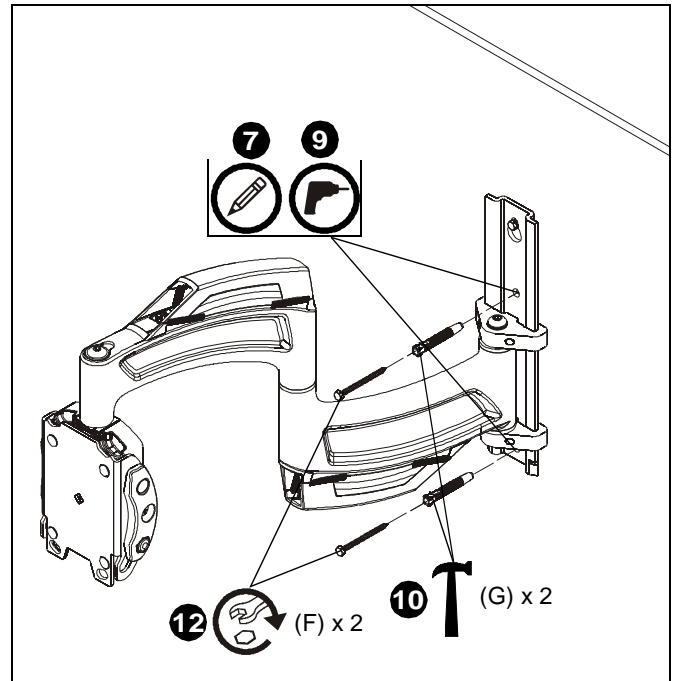

Figure 4
7. Mark two holes at lower mounting hole locations. (See Figure 4)
8. Remove main assembly (J) from wall.
9. Drill two 8mm holes at marked locations. (See Figure 4)
10. Install two concrete anchors (G) into holes. (See Figure 4)
11. Hang main assembly (J) back onto wall.
12. Install two 1/4 x 2 1/2" lag bolts (F) into concrete anchors (G) to secure mount to wall. (See Figure 4)
13. Tighten all lag bolts (F) to fully secure mount to wall.